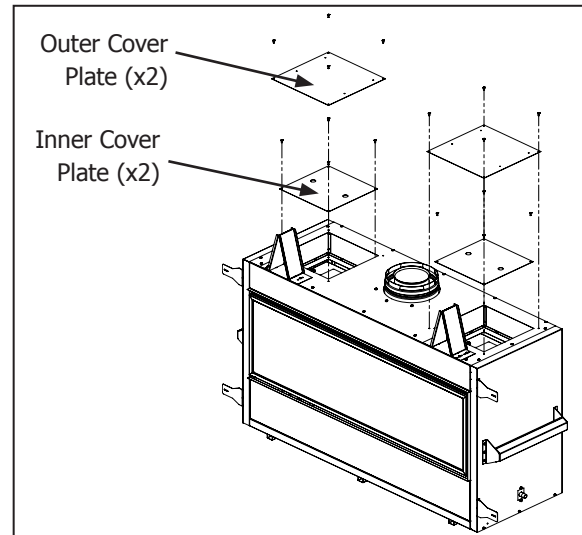

Figure 12. Cover Plate Removal
**Step 1:** Using a T20 screwdriver, remove the inner and outer cover plates from the fireplace as shown (Figure 12). Each cover plate has four (4) mounting screws. Both sets of cover plates are no longer required and can be recycled. Retain eight (8) of the removed mounting screws to secure the duct collars.